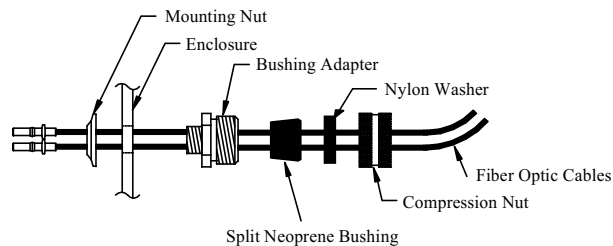

Figure 2-g: Fiber Optic Grip Clamp Installation (Item 1F)
3. Remove and discard the hole cover for COMM1 (and COMM2 if installing two Fiber Optic PCB's) on the *PUMA* terminal rear panel. See Figure 2-b.
4. Install the split grip bushing adapter into the rear grip bushing mounting hole as shown in Figure 2-g.